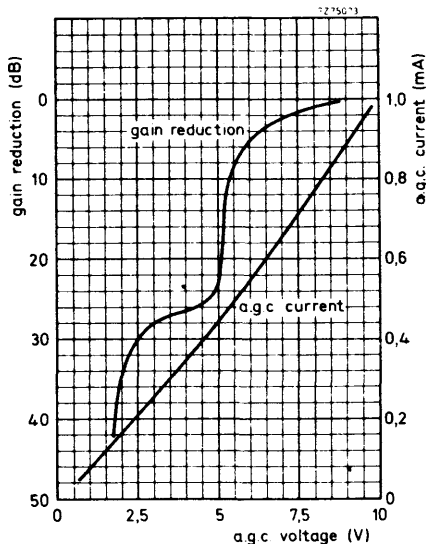

Fig. 4.
A.G.C. voltage (Fig. 4), at nominal gain + 9,2  $\pm$  0,5 V
#### A.G.C. current (Fig. 4)